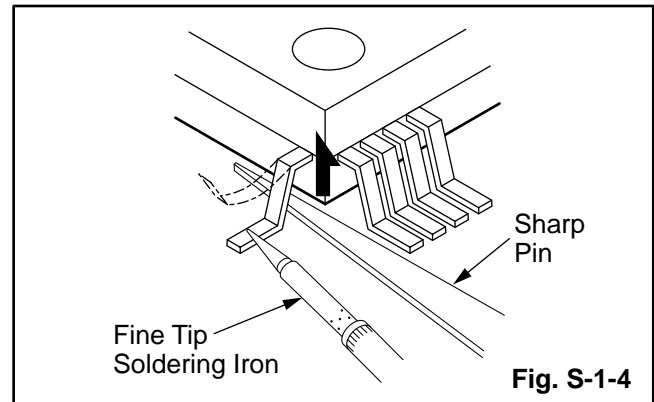

Fig. S-1-4
- (2) Lift each lead of the flat pack-IC upward one by one, using a sharp pin or wire to which solder will not adhere (iron wire). When heating the pins, use a fine tip soldering iron or a hot air desoldering machine. (Fig. S-1-4)